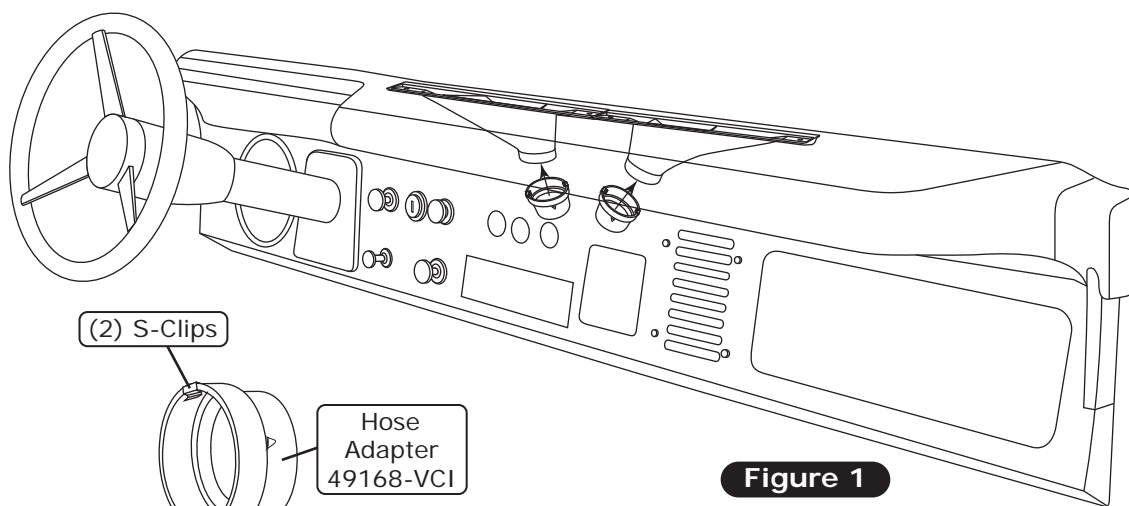

Figure 1
2. Install driver- and passenger-side defrost duct hose adapters onto the OEM defrost ducts as shown in Figure 1, below.